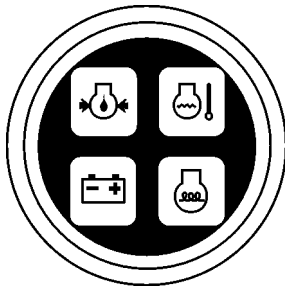

Figure 9. Oil and Charge Indicator Lights
6. Turn the ignition key clockwise to the (start) position. The **oil** and **charge** indicator lights (Figure 9) should be on.